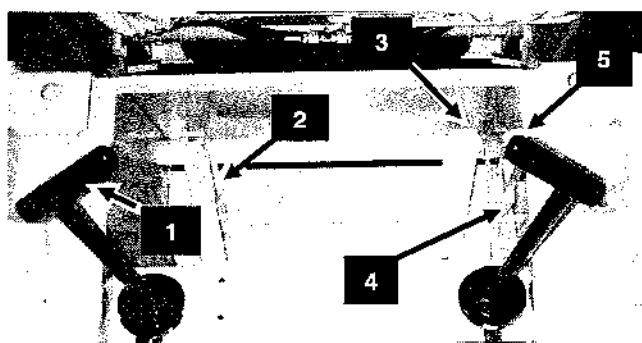

Fig 15: 3725/3825 T-Bar Controls
**T-Bar Controlled Loaders (Figs. 15, & 16):** Using your right hand, slowly and smoothly pull straight back on the Lift/Tilt Control T-Bar to raise the Lift Arm. Twist the T-Bar to roll the Bucket forward or back. Attempt all raising and lowering functions, and combinations of the two functions before proceeding to operate the Propulsion Control T-Bar. ALWAYS lower the Lift Arm and roll the Bucket back BEFORE proceeding to operate the Propulsion T-Bar.